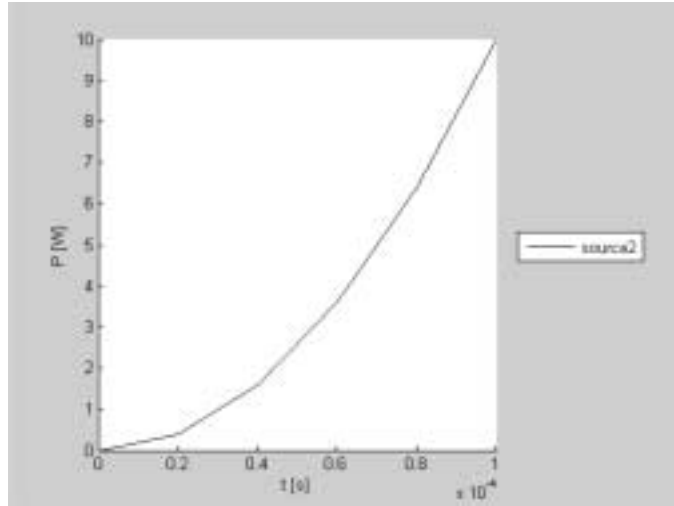

Figure 4: Piecewise linear waveform: example 2.
- **Example 2** (see Figure 4): quadratic dependence: